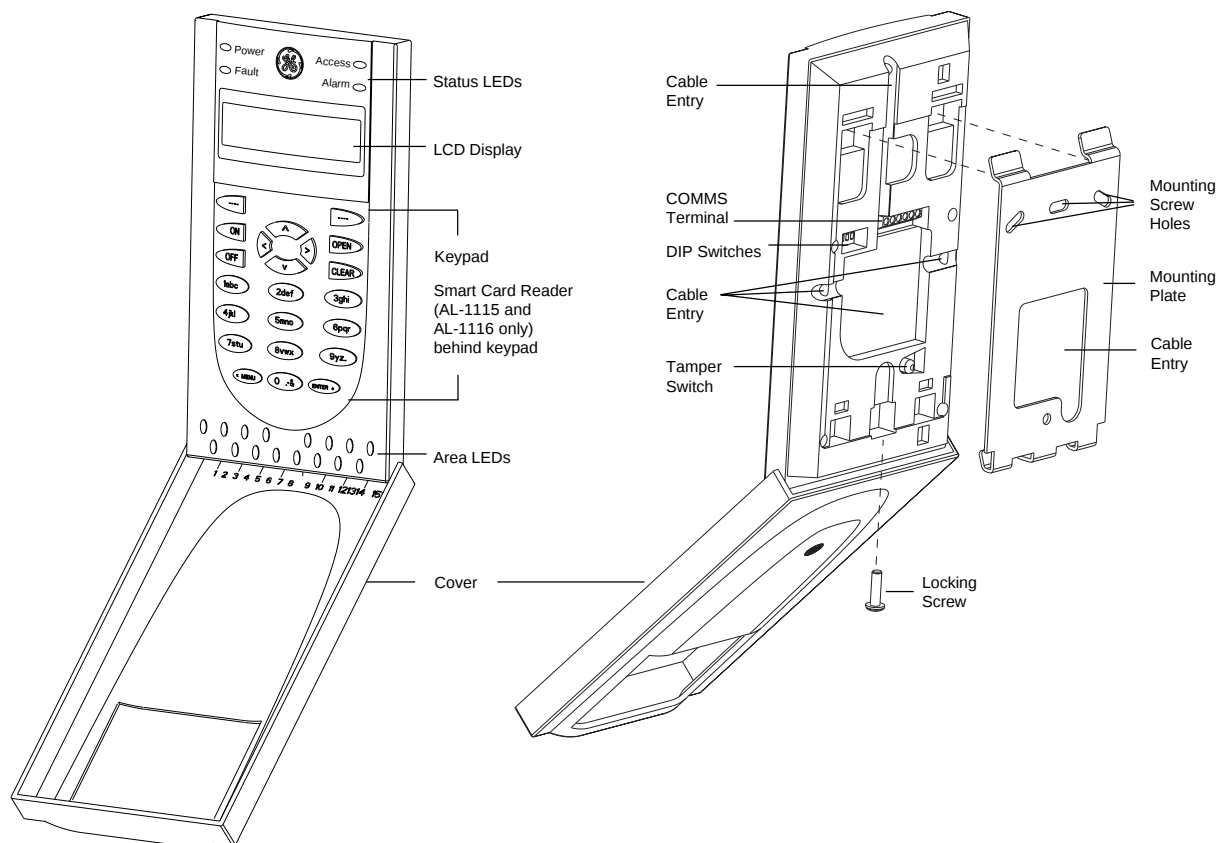

Figure 1.
The RAS cover is hinged at the bottom. To open, grasp the cover at the sides or the top and pull gently - the cover will swing down on its pins (see Figure 1). The cover may be fully removed by gently prizing one of the pins away from the body of the RAS and pulling.
The metal mounting plate at the back is held by a locking screw (see Figure 1). To remove the mounting plate, loosen the screw by at least 8mm (0.315 in.), slide the mounting plate down, and then pull the bottom of the mounting plate away from the body of the RAS.
2. Ensure that the back tamper switch (see Figure 1) can rest on a flat surface flush with the back of the mounting plate (avoid rough or non-flat surfaces).
7. Insert plastic cable entry blanking plugs (provided) into the back of the RAS to blank any unused cable entry channels (see Figure 1).
The back tamper switch (see Figure 1) must be sealed for the system to work correctly. Make sure that the tamper switch rests on a surface so that it remains depressed when the RAS is mounted. If the unit is tampered with the tamper switch should spring open.
DIP switches are located on the back of the RAS (see Figure 1) and are used for setting the RAS address and the System BUS termination (TERM) condition.
A terminal block on the back of the RAS (see Figure 1) is used for the COMMS (System BUS) connection.
AL-111X RAS have four status LEDs above the LCD panel (see Figure 1):
When the RAS cover is opened or removed, 16 red area LEDs are visible at the bottom of the RAS (see Figure 1). Each LED represents an area, and the indications are as follows: